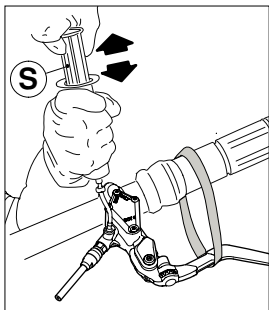

Fig. 15
- Fit the syringe **S** (Fig.15) and screw it to the pump after checking that the oil amount in the syringe is 10ml.